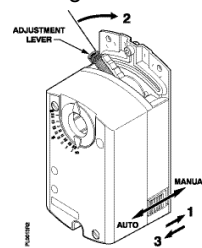

Figure 2.
2. If the blades will rotate counterclockwise, slide the manual override switch to manual, and move the adjustment lever to the right. Return the switch to automatic. See Figure 2.